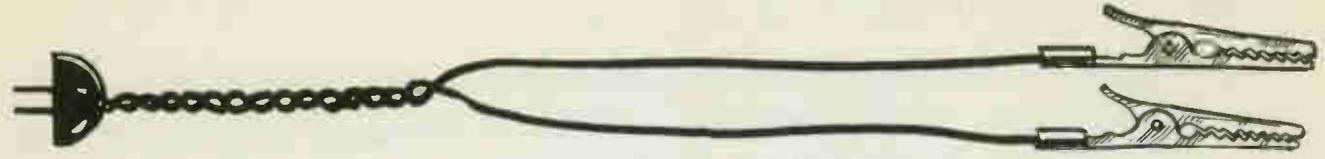
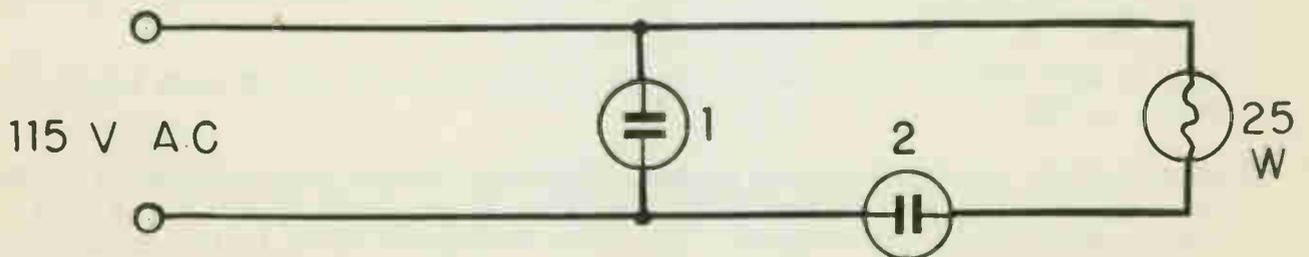

Fig. 5
Fig. 4
3. Make a test circuit like the one shown in Fig. 4 and a set of test leads as shown in Fig. 5.